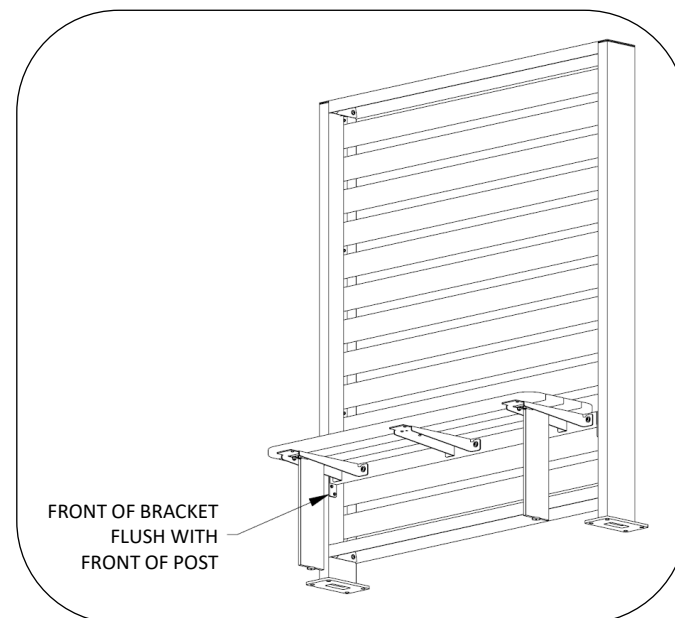

Fig. 2 – ATTACH BENCH TO POSTS
6. Place inline bench in position. Front of bracket should be flush with front of post, see Fig. 2.